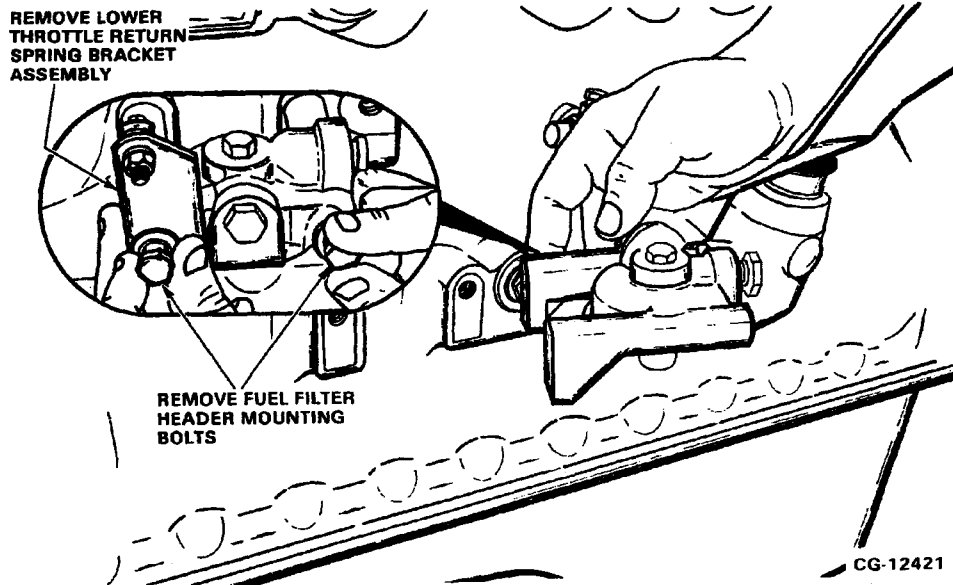

Figure 11.117. Remove Fuel Filter Header and Lower Throttle Return Spring Bracket Assembly (Current Production Shown)
2. Loosen and remove the two mounting bolts which secure the fuel filter header to the crankcase, then remove the header. Refer to Figures 11.117 and 11.118.